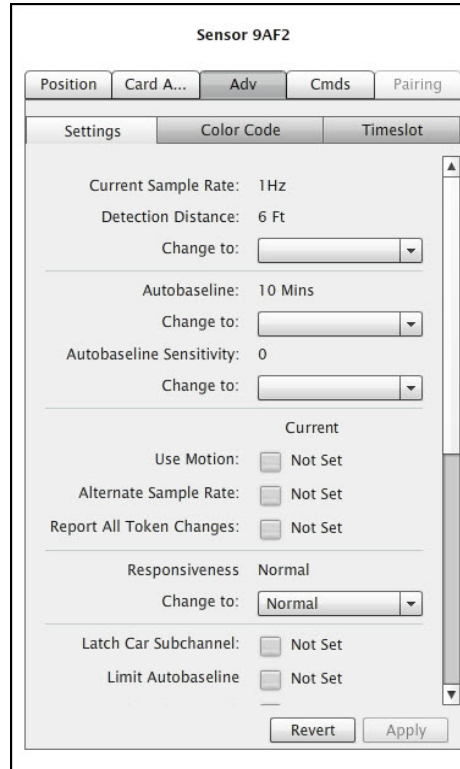

Figure 5.11. MicroRadar Advanced Settings window
1. Click the **Adv** tab to open the *Advanced Settings* window. Refer to Figure 5.11.